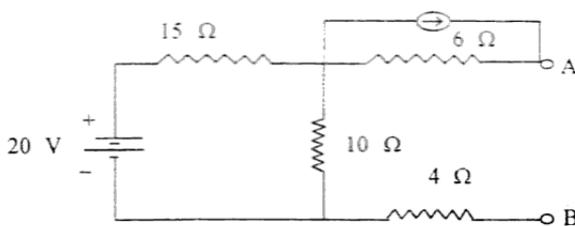

Fig. 1
- (b) Find Norton equivalent circuit for the network shown Fig. 1.